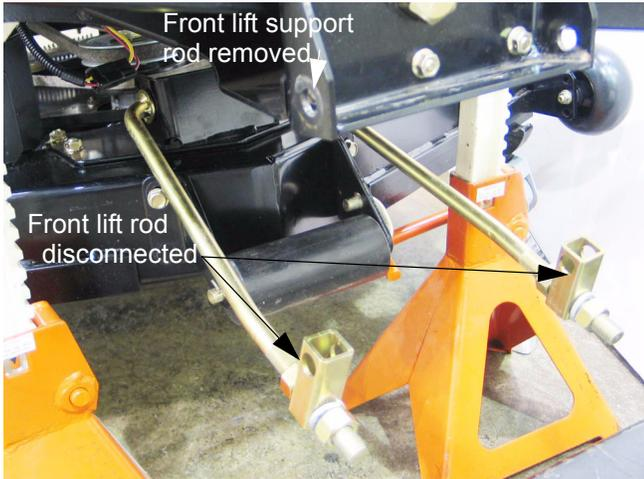

Figure 27.31
27.31. Remove the cotter pin that holds the front lift support rod, and withdraw the rod. See Figure 27.31.